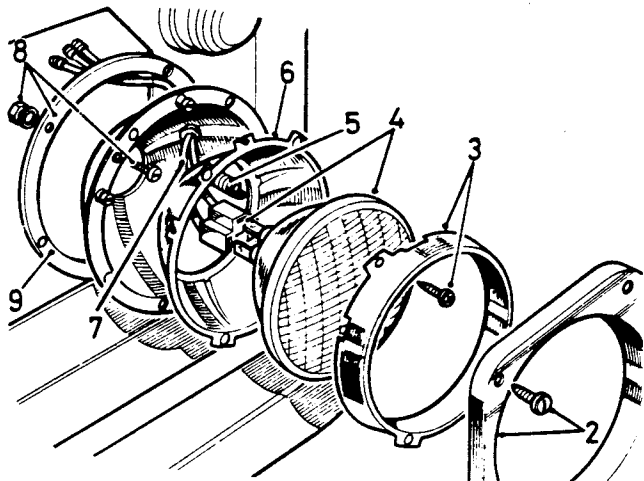

Fig O5.9
- (2) Refer to Fig O5.9. Remove the headlamp Bezel (2).
- (3) Remove the headlamp rim (3).
- (4) Disconnect the headlamp leads at the plug connector and withdraw the light unit (4).
- (5) Disconnect the spring from the headlamp shell (5).
- (6) Withdraw the headlamp shell (6) by rotating it clear of the slotted locations.
- (7) Disconnect the headlamp leads (7) at the snap connectors behind the radiator grille.
- (8) Remove the headlamp mounting shell (8).
- (9) Withdraw the gasket (9).